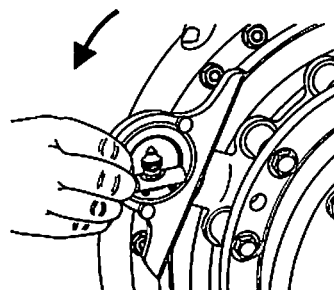
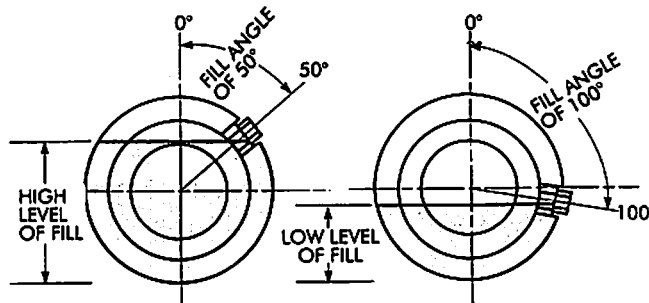

Figure 7
Figure 8
- C. Slowly rotate fluid coupling until the required fill angle is achieved, Figure 7. Fluid must appear at the lip of the hole. Add or drain fluid until level is correct. Figure 8 shows fill angle examples.